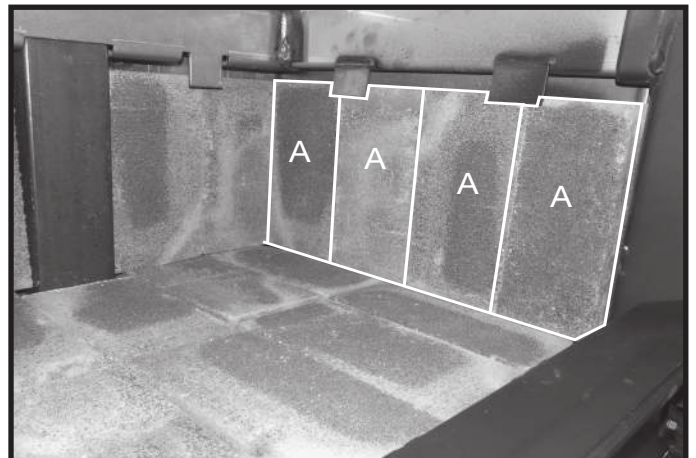

Figure 28: Side wall brick - Summit Ins LE.
5. Place 2 "A" bricks along one of the side walls by slipping them up under the side brick rail tabs (Figure 28) and pushing to the rear, past the back brick. Place two more "A" bricks in the remaining opening at the front of the firebox and eliminate any gaps between the bricks by shifting the bricks toward the rear wall.